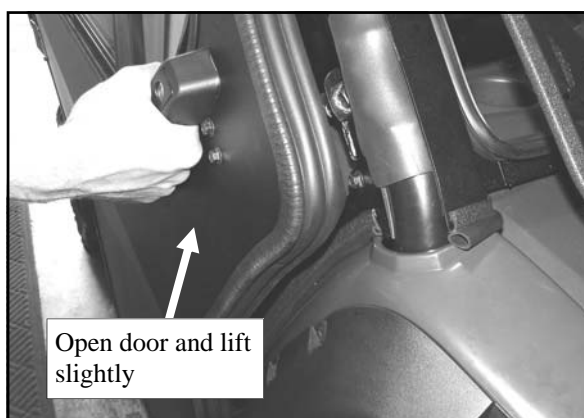

Fig. 11.3 (View of right door)
11.3 See fig. 11.3. Have an assistant unlatch, open, and lift the door slightly while the lower two bolts are tightened. Do not over tighten. Over tightening will crush (damage) the structural tubing. **Torque to 40 in.-lbs.** Note: the top of the door should end up approximately visually parallel with the side of the roof. The door latch may need adjustment. Do not shut the door completely. The top hinge can be loosened and adjusted to achieve best alignment.